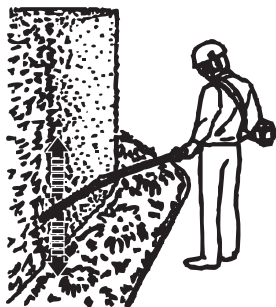

Fig. 27
5. Always hold the product firmly with both hands on soft grip (7a) of the rear pole (7) and the rear handle (1). Never operate this product using only one hand.
7. First cutting both sides from the bottom upwards to the top. This will prevent any of the cuttings falling into the path of the area still to be cut (Fig. 27).